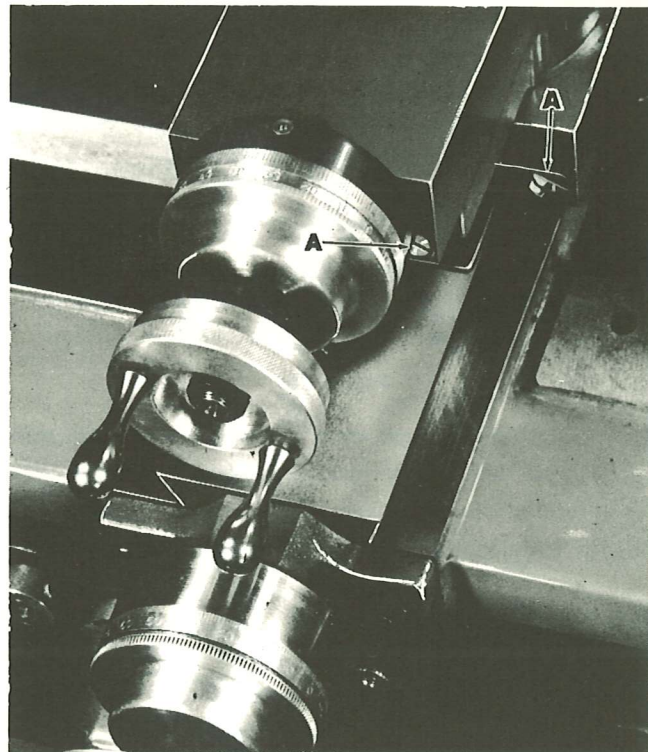

Figure 18
3. Turn front adjusting screw (A, fig. 18) until tight, then back off about one-half turn -- slide should move with a slight drag.